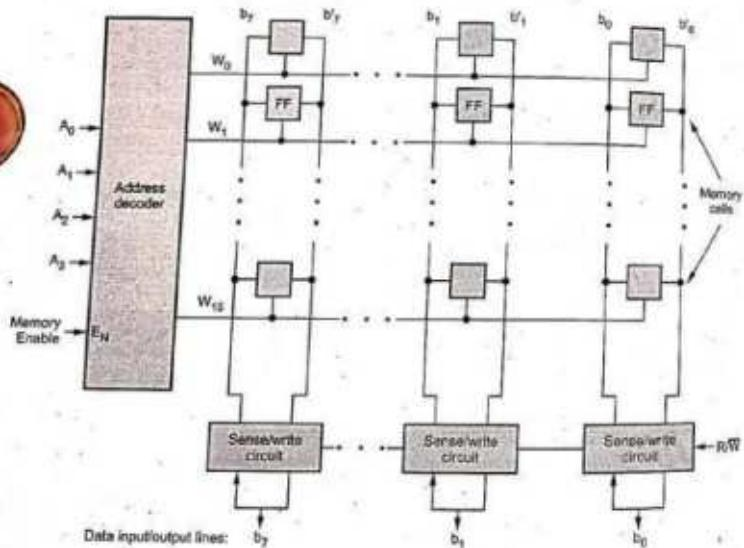

Fig. 7.7.1 Organization of bit cells in a memory chip
- \* The Fig. 7.7.1 shows the organization of  $16 \times 8$  (16 words of 8-bit each) memory. Here, the organization is shown with detail connections of address lines, data lines and control lines. The data input and the data output of each sense/write circuit are connected to a single bidirectional data line that can be connected to the data
- As shown in the Fig. 7.7.1 there are 16 words of 8-bits each. A memory with 16 words needs four address lines. The four address inputs go through a  $4 \times 16$  decoder to select one of the sixteen words. The decoder is enabled with a memory enable input. When the memory enable is 0, all outputs of the decoder are 0 and none of the memory words are selected. With the memory select at 1, one of the sixteen words is selected, dictated by the value in the four address lines. Once a word has been selected, the read/write input determines the operation. During a write operation, the data available in the input lines are transferred into the eight memory cells of the selected word. The memory cells that are not selected are disabled and their previous binary values remain unchanged.